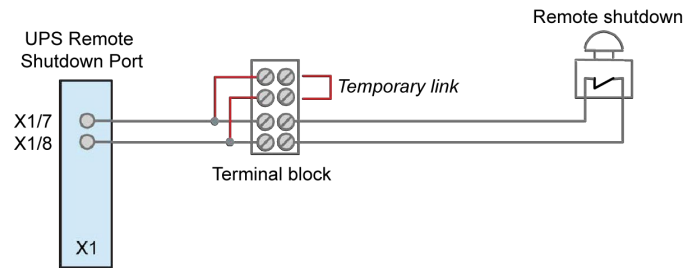

Figure 8.2 Remote emergency stop cabling
The remote shutdown facility comprises a normally-closed switch connected between terminal X1/7 and X1/8 (see Figure 8.2).
2. Connect the cable as shown in Figure 8.2.